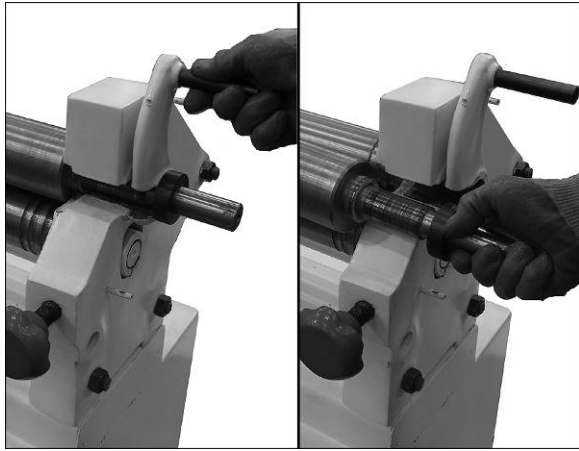

Figure 5
3. To remove the tube from the stationary roll, rotate the release lever and pivot the roll outward, as shown in Figure 5.
3. Apply a light coat of oil to the exposed end of the stationary roll (shown in Figure 5).